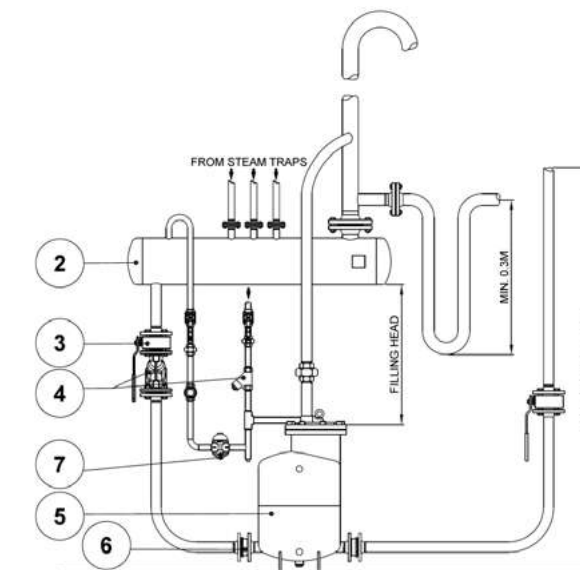

Fig. 1
4. Available filling head (see Fig. 1) in mm or any other dimension that allows its determination.